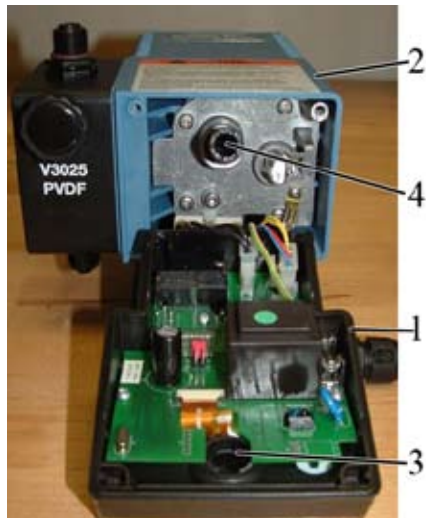

Figure 2.19 - Control Panel Internals
- Carefully remove the control panel (Figure 2.19, item 1) from the pump housing (2), being certain NOT to turn, adjust, or remove the stroke length adjustment knob (3). Also, do NOT turn or adjust the stroke length adjustment shaft (4), which will be seen protruding from inside the pump housing.